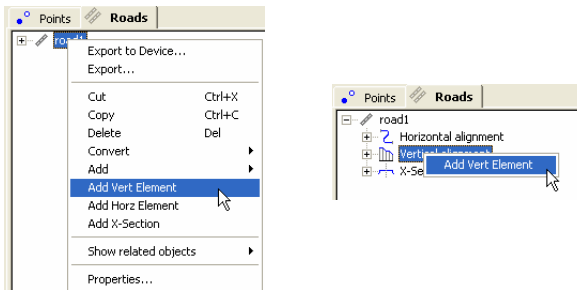

Figure 9-55. Adding Vertical Element on the Left Panel
- In the left panel, right-click the road or the vertical alignment and click **Add Vert Element** (Figure 9-55).